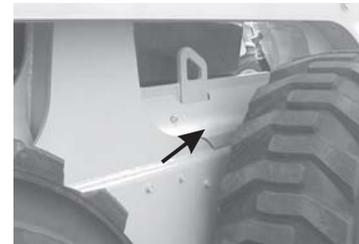

Fig. 42: Fill Plug Location
3. If the level is low, add fluid through the fill plug; (Fig. 42) (located under the covers at the front of the loader) until the oil level reaches the edge of the check plug hole. Reinstall the plugs.